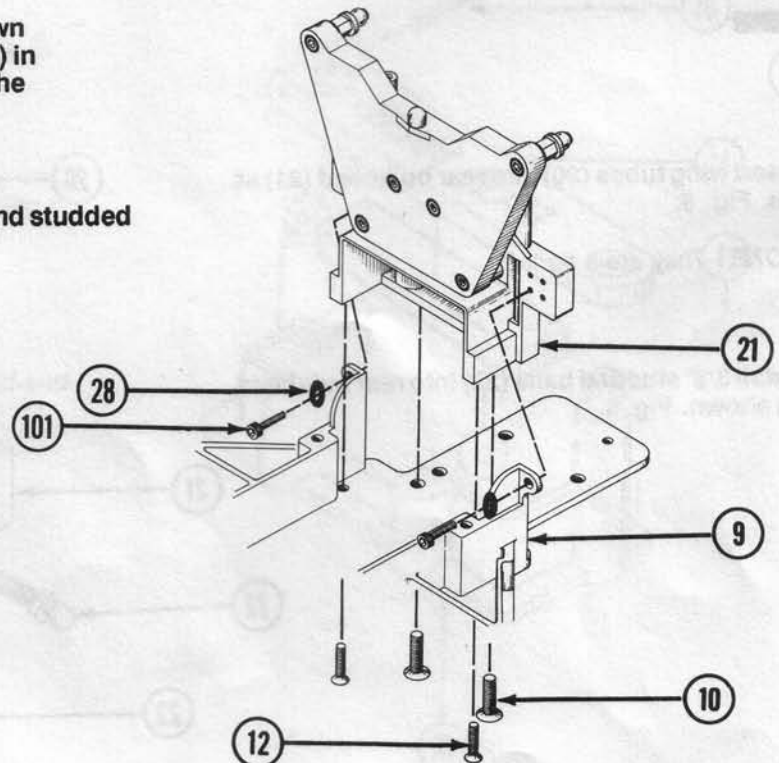

FIG. 10
16. Attach rear bulkhead (21) to chassis (9) as shown using two 8-32 x 1/2" flathead aluminum screws (10) in the rear and two 4-40 x 3/8" flathead screws (12) in the front. Fig. 10.
17. Secure top of chassis (9) to rear bulkhead (21) using two 4-40 x 3/8" socket head screws (101) and studded ball washers (28) Fig. 10.